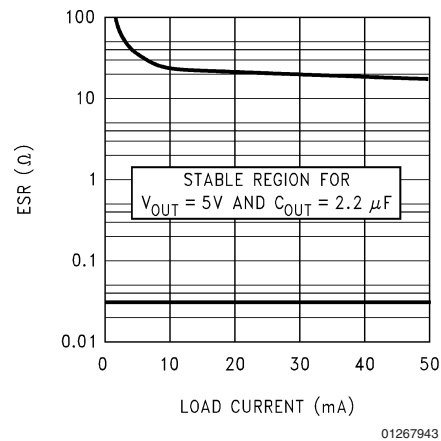
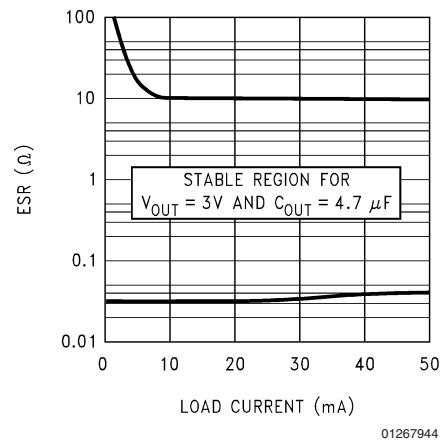

FIGURE 1. 5V/2.2  $\mu\text{F}$  ESR Curves
FIGURE 2. 3V/4.7  $\mu\text{F}$  ESR Curves
**Output Capacitor:** The output capacitor must meet both the requirement for minimum amount of capacitance and E.S.R. (equivalent series resistance) value. Curves are provided which show the allowable ESR range as a function of load current for various output voltages and capacitor values (refer to *Figure 1*, *Figure 2*).